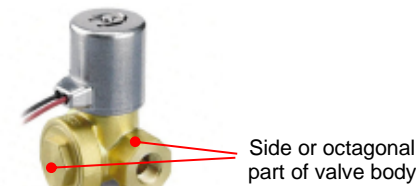

Figure 1. Clamp area of valve
- When connecting piping/fitting to the valve, clamp the valve body with a vise, etc. See Figure 1.